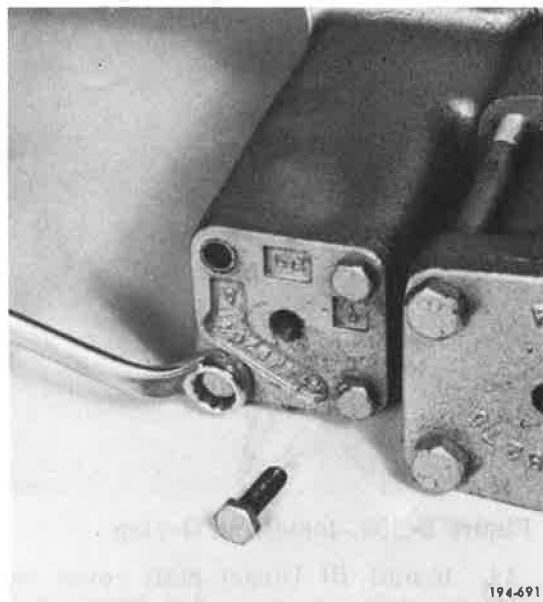

Figure 5-864. Installing Capscrews
21. Install reverse shift cover capscrews, and tighten to recommended torque. Refer to Torque and Tolerance Table, Item 14. See **Figure 5-864**.